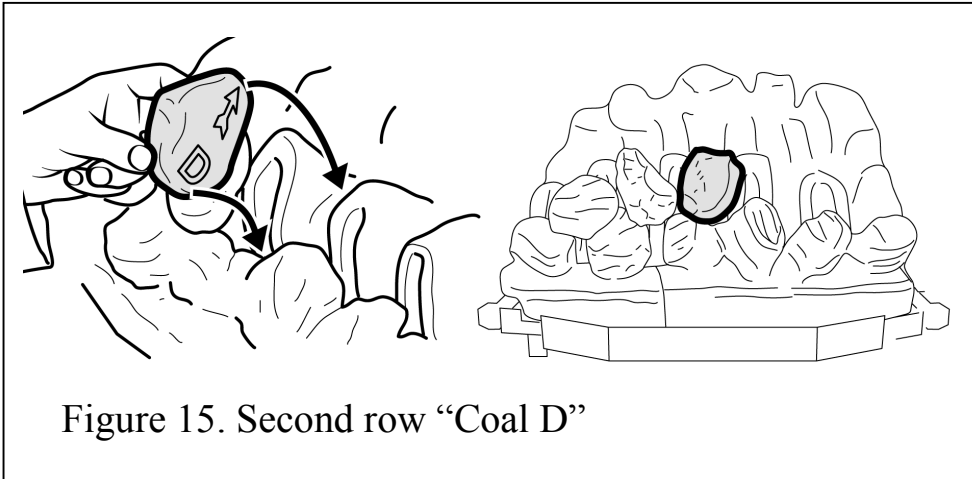

Figure 15. Second row "Coal D"
11. Hold coal 'D' upright with the arrow pointing to the top. Locate coal 'D' as shown in figure 15.